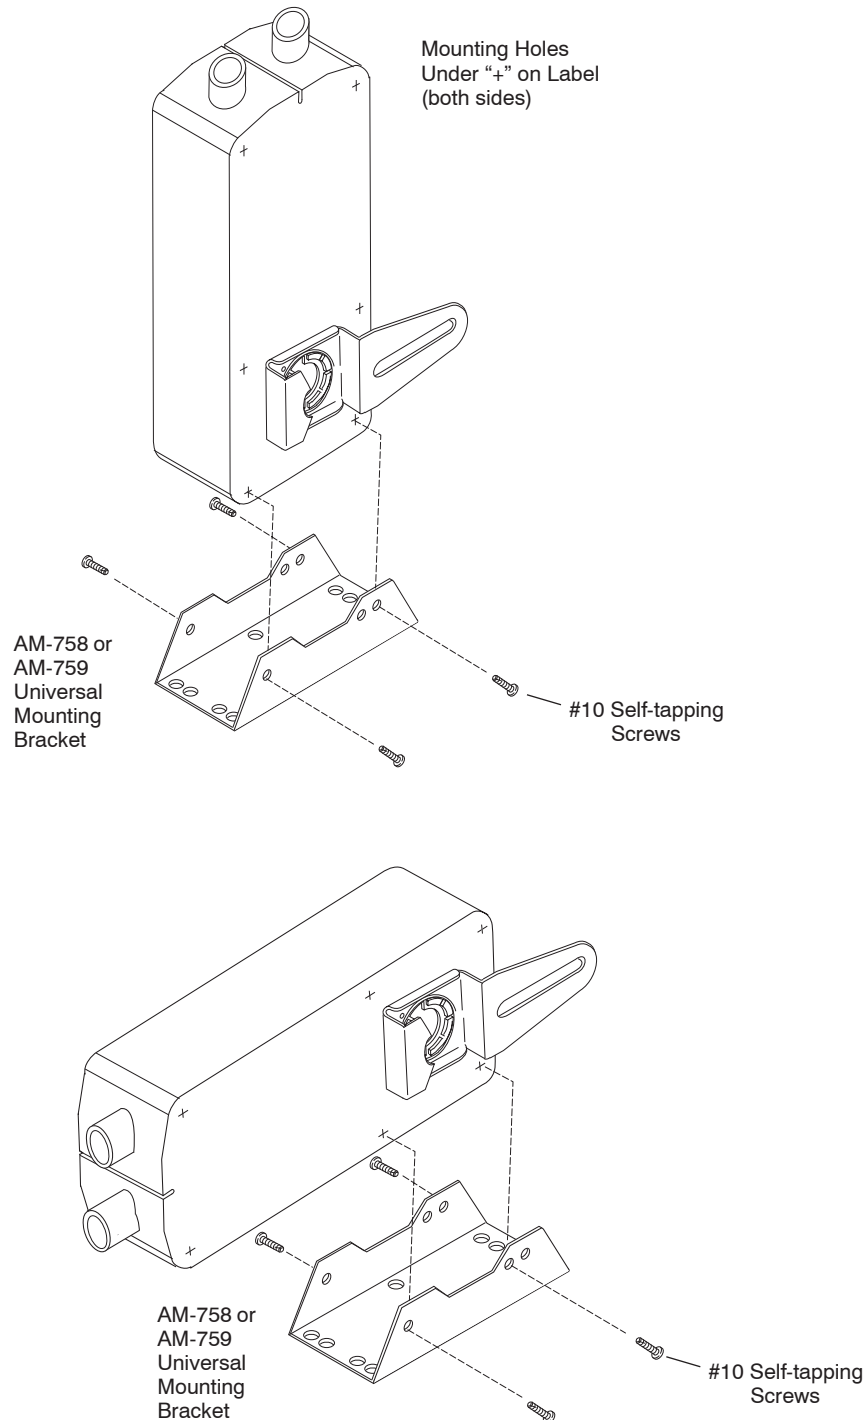

Figure-7 Installation of Universal Mounting Bracket AM-758 and AM-759.
2. Locate the pre-drilled mounting holes on the actuator label that are covered by a white "+" sign (See Figure-7).
4. Use the #10 self-tapping screws to secure the actuator to the mounting bracket (See Figure-7).